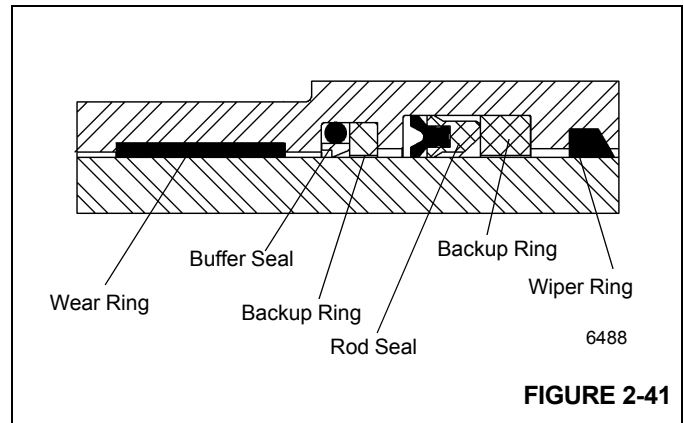

FIGURE 2-41
- Install the wiper ring, backup rings, deep Z rod seal, buffer seal assembly and wear rings into the inside of the cylinder head Figure 2-41.